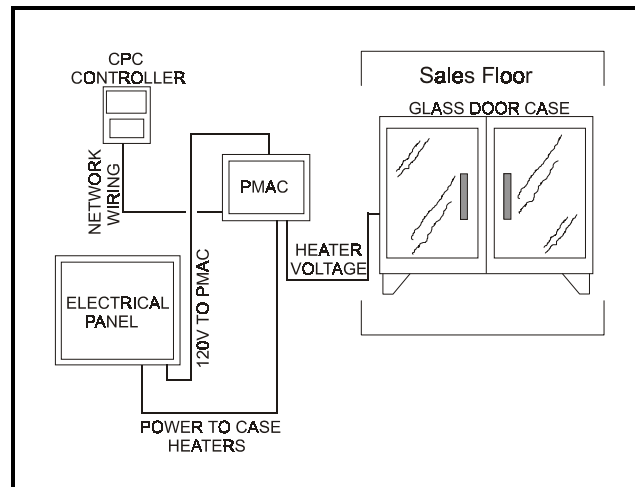
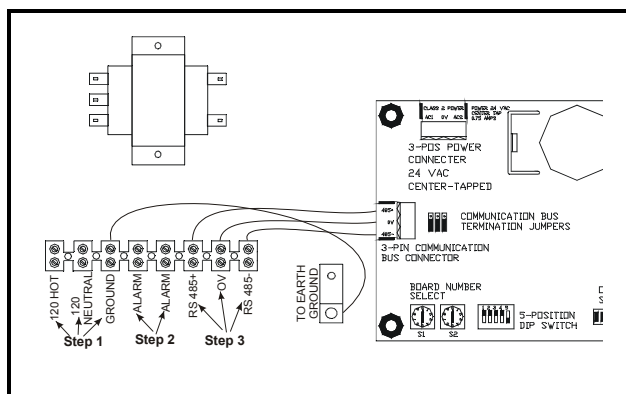
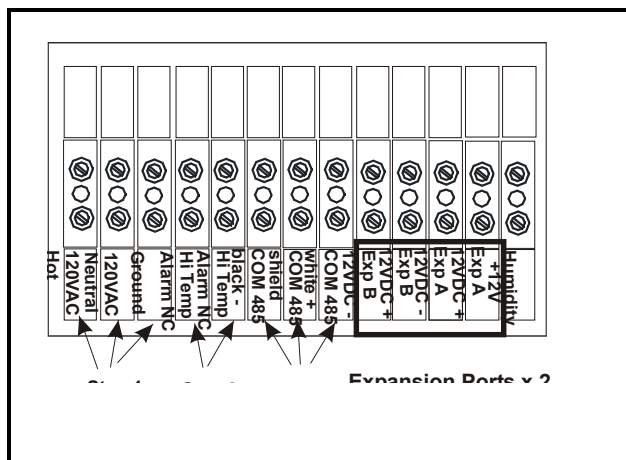
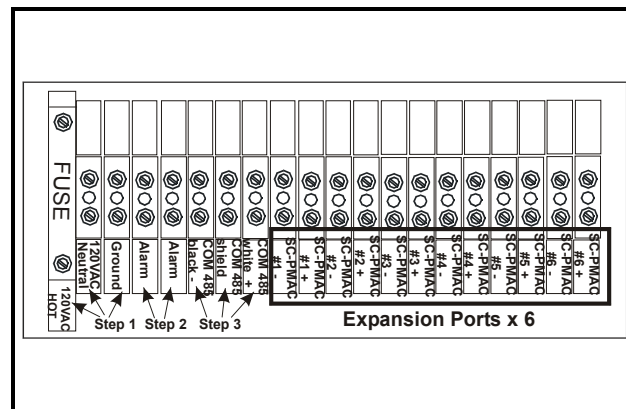

Figure 2-3 - Typical Layout
Figure 2-5 - Wiring Detail for 16 Channel
Figure 2-6 - Wiring Detail for 20 Channel
Figure 2-7 - Wiring Detail for 28 Channel
The following steps provide location and wiring instructions for the PMAC II panel. **Figure 2-3** shows this typical layout. **Figure 2-5** shows the PMAC II internal wiring connections.
2. Provide 120 VAC (15 amp circuit) to the PMAC II panel through a store circuit breaker. See the layout design in **Figure 2-3**.
4. Connect the PMAC II panel 8DO board to the existing RMCC or BEC COM A or COM D network, as shown in **Figure 2-5**, using a Belden #8761 (two-conductor, shielded, 22AWG) or equivalent communication cable.
1. Provide 120VAC (15 amps circuit) to the PMAC terminal block through a store circuit breaker. Wire **120VAC Hot**, **120 VAC Neutral**, and **Ground** as indicated by the **Step 1** arrows of **Figure 2-5** for the 16 Channel, **Figure 2-6** for the 20 Channel, and **Figure 2-7** for the 28 Channel.
2. A normally closed alarm contact is provided on the terminal strip as indicated by the **Step 2** arrows of **Figure 2-5** for the 16 Channel, **Figure 2-6** for the 20 Channel, and **Figure 2-7** for the 28 Channel.
3. **Step 3** of **Figure 2-5** for the 16 Channel, **Figure 2-6** for the 20 Channel, and **Figure 2-7** for the 28 Channel indicates the terminal block positions to wire the CPC 485 I/O Network. Polarity must be respected while making these connections.
The 20 Channel PMAC has two expansion ports (**Figure 2-6**), and the 28 Channel PMAC has six single expansion ports (**Figure 2-7**). These expansion ports can be used to attach single channel PMACs if desired (*P/N 851-1010*).